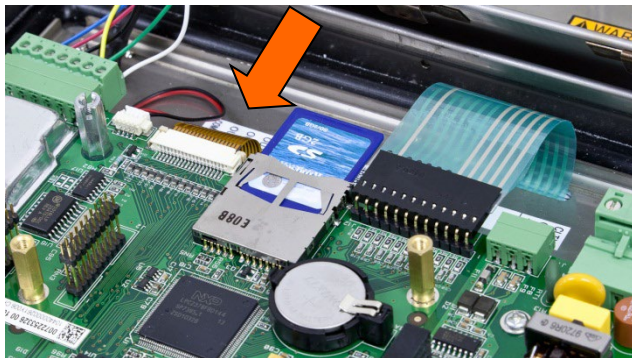

Figure 5-14: SD Memory Card Insertion
1. Remove power from the terminal and insert the SD memory card if not already installed. Refer to Figure 5-14 for location of SD memory card.